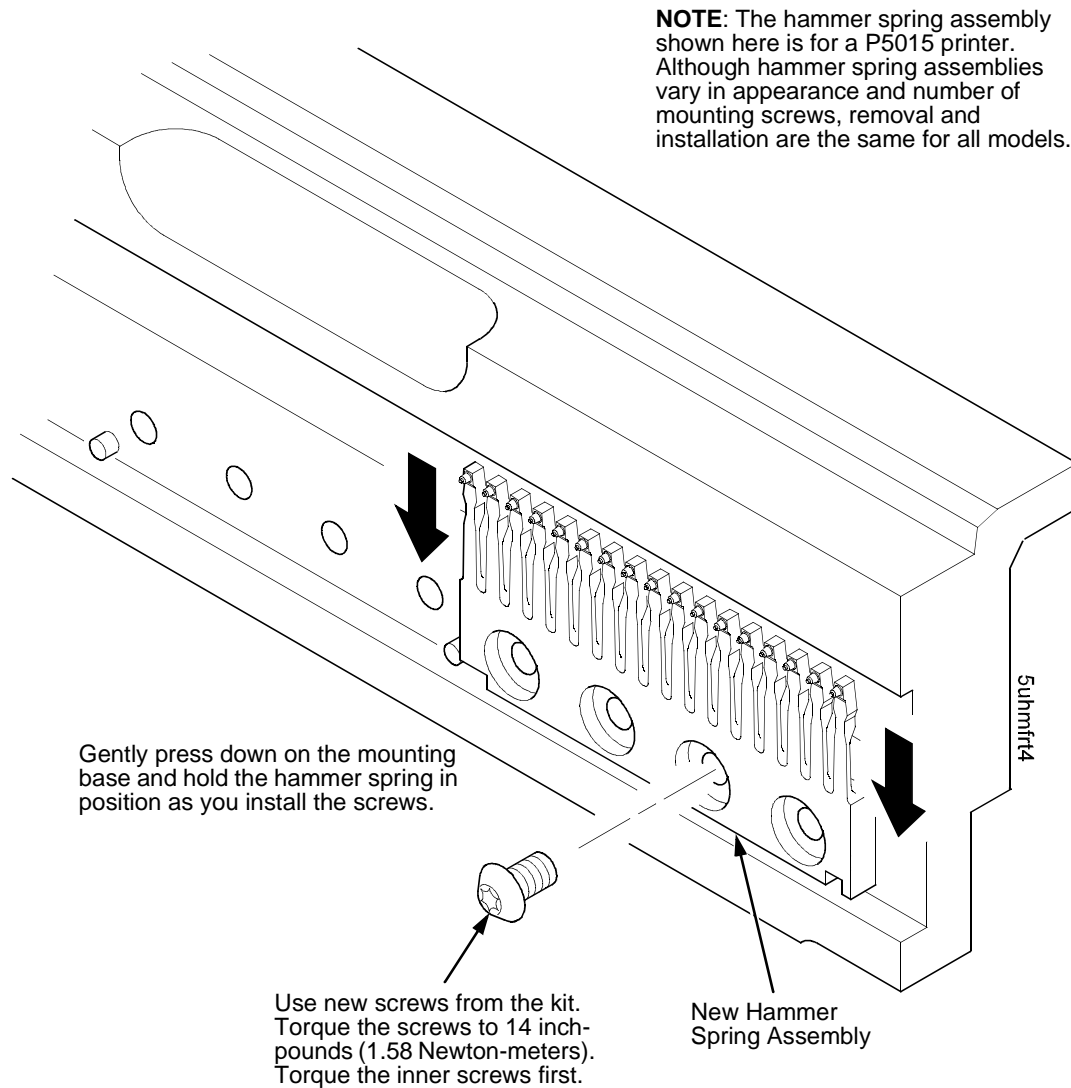

Figure 25. Hammer Spring Assembly, Installation
3. Handling the hammer spring assembly by the mounting base only, carefully position it on the hammer bank mounting pins. then gently press the mounting base down against the alignment pins. (See Figure 25, page 187.)
4. Continue pressing down on the mounting base of the new hammer spring assembly as you install the mounting screws from the replacement kit. Using a Torx T-10 bit adapter, torque each screw to 14 inch-pounds (1.58 N•m). Tighten the center screw(s) first. (See Figure 25, page 187.)